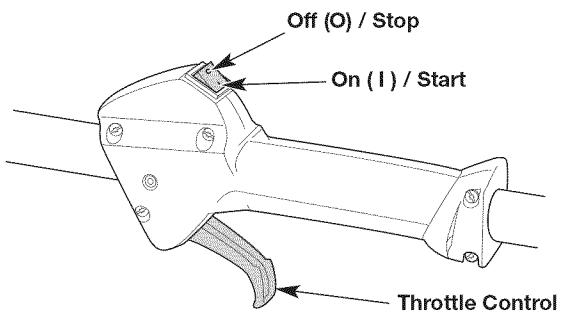

Fig. 6
- NOTE:** There is no need to turn the unit on. The On/Off switch is in the ON (I) position at all times (Fig. 6).
6. **DO NOT** squeeze the throttle control (Fig. 6). Pull the starter rope with a controlled and steady motion until the unit starts (Fig. 9).
2. Press and hold the On/Off switch in the OFF (O) position until the engine comes to a complete stop (Fig. 6).
6. **DO NOT** squeeze the throttle control (Fig. 6). Insert the Speed Start™ accessory into the Speed Start™ port (Fig. 20). Refer to the *Operation* section of the Speed Start™ accessory operator's manual.